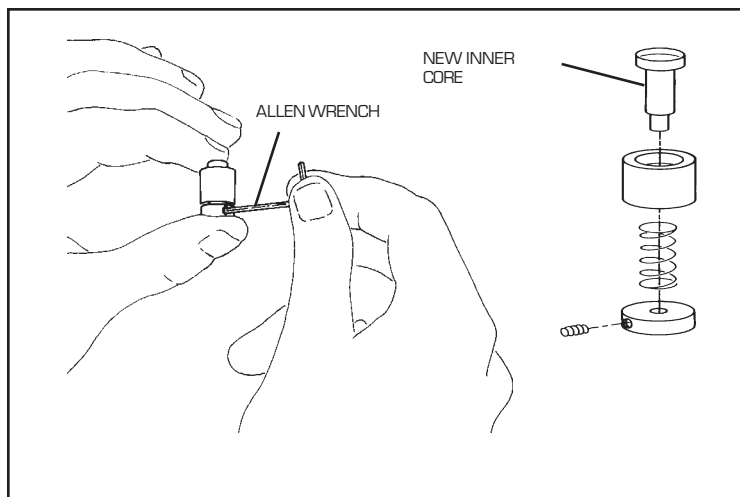

Figure 5.7
7. Insert the new inner core (included with the Autosampler CE—see Figure 5.7) into the die. Retighten the allen screw.